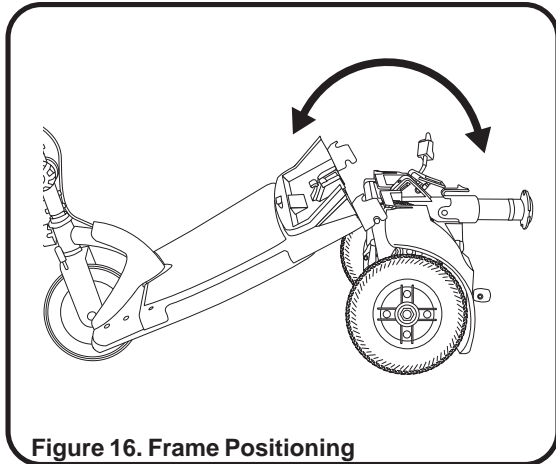

Figure 16. Frame Positioning
1. Push back on the seat post to pivot the scooter's rear section rearwards until the rear section is standing vertically on its rear bumper. **See figure 16.**
3. Holding the seat post, slowly pivot the rear section forward until the curved locking brackets are fully connected onto the top rear pegs. **See figure 16.**